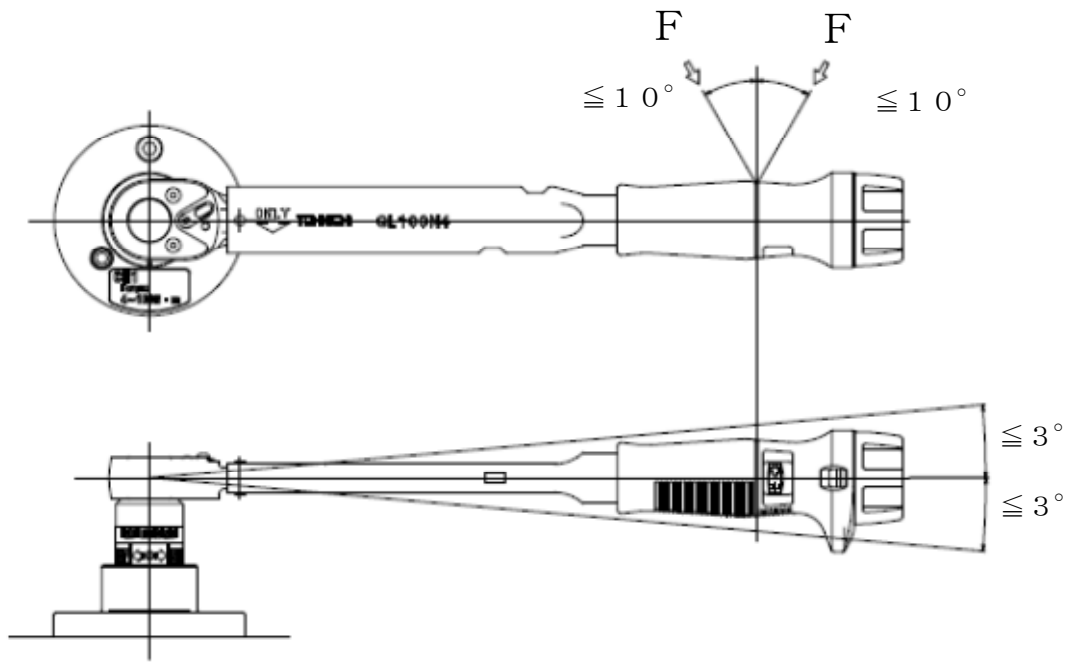

Figure 1-Measurement of a torque wrench in a vertical position
- For the torque wrenches, apply force within the range specified in Fig.1 at the centre of the grip or the marked loading point.